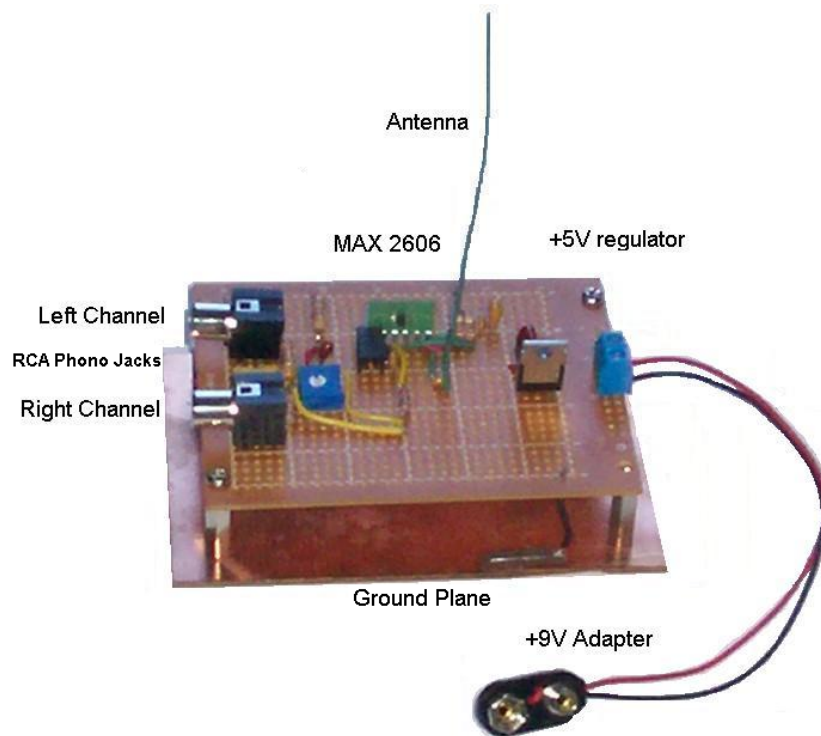

Figure SP8-2 An example of an assembled FM transmitter
1. Assemble the circuit similar to the example provided in Figure SP8-2.
3. Verify that power is being properly provided to the circuit. The example provided in Figure SP8-2 uses a 9V battery with a +5V regulator on board to provide power to the circuit.